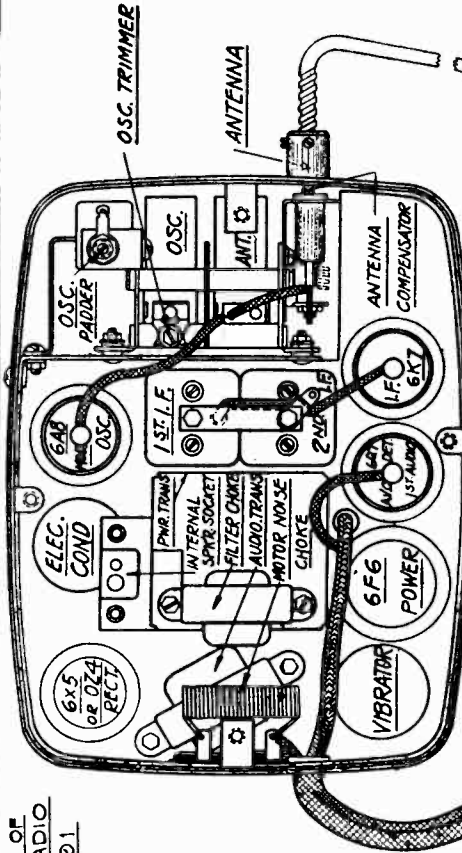

Fig. 2
**IMPORTANT: BALANCING SET TO ANTENNA.** There is such an extremely wide variation in antenna capacities that it is difficult to match this condition without some means of variable antenna alignment. To accomplish this, an antenna compensating adjustment is provided through the small hole directly above the antenna cable connector on the receiver case. In addition to this, a tapped antenna transformer is also incorporated (see Figure No. 2). The proper method of alignment is as follows: After completely connecting receiver, tune in a signal between 1400 and 1450 K.C. and adjust the antenna compensator shown in Figure 3, for either the roof antenna, or single or double under-car antenna. The receiver is shipped from the factory with the antenna tap shown in Figure 2 set to the No. 2 position, and, therefore, need not be changed for either of the two types of antennas mentioned.